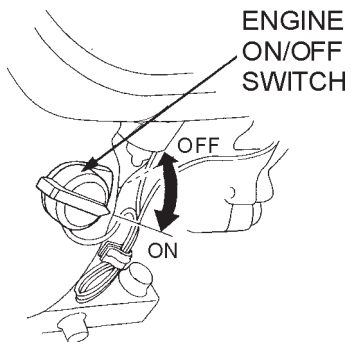

Figure 11. Engine ON/Off Switch
2. Place the **Engine ON/OFF switch** (Figure 11) in the "ON" position.
2. Place the **engine ON/OFF switch** (Figure 11) in the **"OFF"** position.